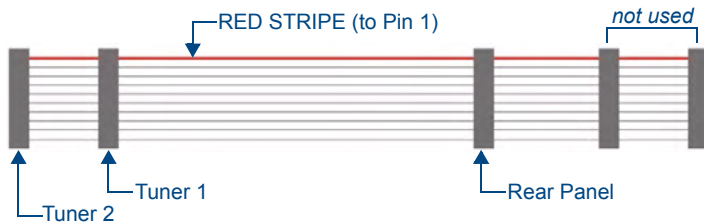

FIG. 2 Tuner Ribbon Cable
4. Place the Rear Panel connector at the end of the ribbon cable (FIG. 2) on the rear board pin-bus, keeping the red stripe at the top.
4. Connect the **Tuner 2** connector on the ribbon cable to Tuner 2 (see FIG. 2).
6. Connect the **Tuner 1** connector on the ribbon cable to Tuner 1 (see FIG. 2).
7. Connect the **Rear Panel** connector on the ribbon cable to the rear board pin-bus with the red stripe at the top (see FIG. 2).